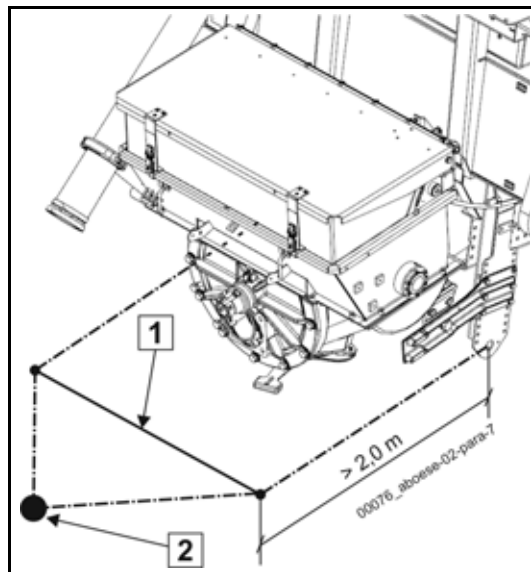

Fig. 201
- When performing towing work, always use both of the machine's towing lugs, see **(Fig. 201)**.
The central force transmission point (2) must be located at least 2.0 m behind the member of the towing lug, see **(Fig. 201)**.
Maintain some distance between the towing chains. An appropriate crossbar (1) **(Fig. 201)** can be used for this purpose.
If this is not possible, the tube outlet can be removed prior to the salvaging work (**Fig. 201**).